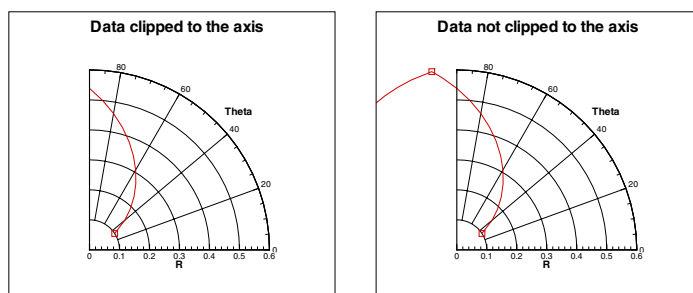

Figure 17-3. An example of clipping polar data to an axis.
17.3.3.1. Clip Data to Axes. For Polar Line plots, it is possible to have data that extends beyond the edges of the axes. Use this feature to eliminate data drawn outside of the range of the axes. Clipping data can be set independently for the axes. For example, you may clip data for the Theta-axis, yet see points extending beyond the R-axis. To change this setting, use the Clip Data to Axis toggle on the Range page of the Axis Details dialog. This feature is illustrated in Figure 17-3.